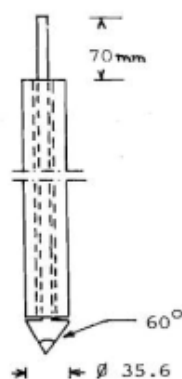

Fig. 3.64. Original Dutch cone (Vermeiden, 1948).
- A little later, the 1940s, the Dutch came up with the first Dutch Cone Penetrometer - a 10cm² steel point pushed into the ground via rods protected from friction inside a steel casing. Fig 3.64 below.